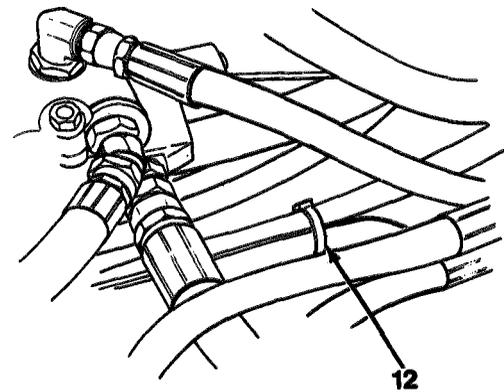

Figure 17-2
13. Install new plastic ties (12, Figure 17-2).